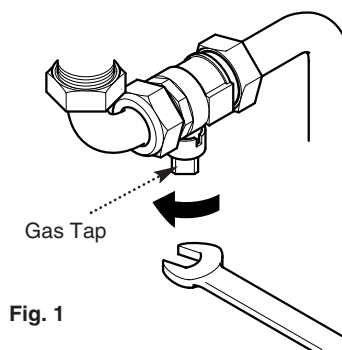

Fig. 1
2. Using a suitable open ended spanner or screwdriver turn the square on the gas tap to the left to isolate the gas supply at the boiler (Fig. 1).